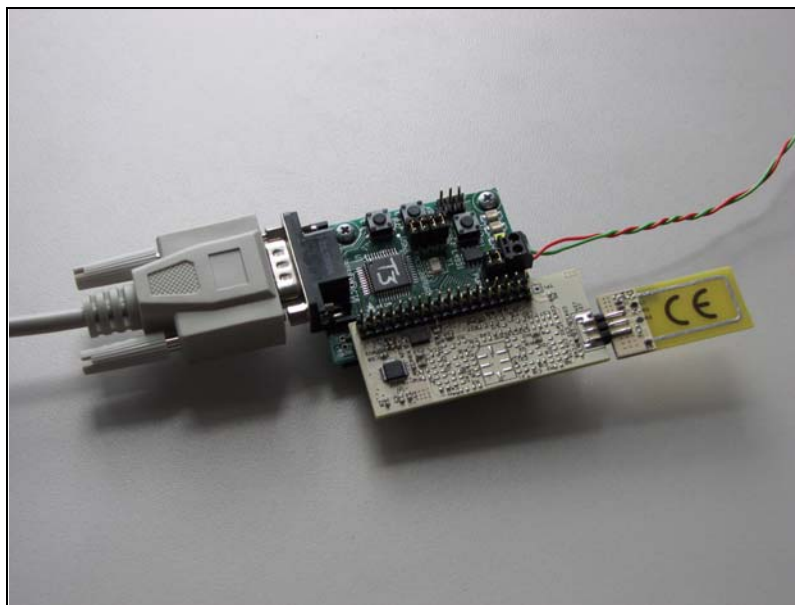

Figure 2. MC9S08RG60 Demo Board and Echo RF Module
Hyperterminal showing the monitor program. Figure 2 shows the hardware setup required to use the monitor program.
5. Connect a 9 V power supply or battery to the power connector on the MC9S08RG60 demo board. See Figure 2 for a reference setup.